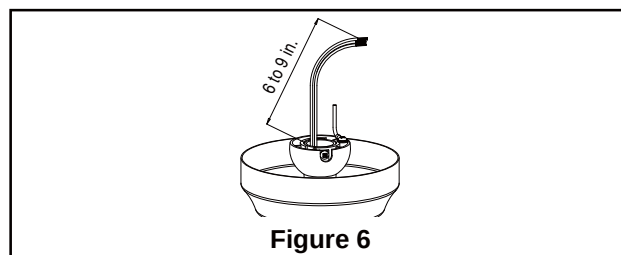

Figure 6
6. Cut off excess lead wire approximately 6 to 9 inches above top of the top of the downrod. Strip insulation off 1/2 inch from the end of each lead wire. (Figure 6)